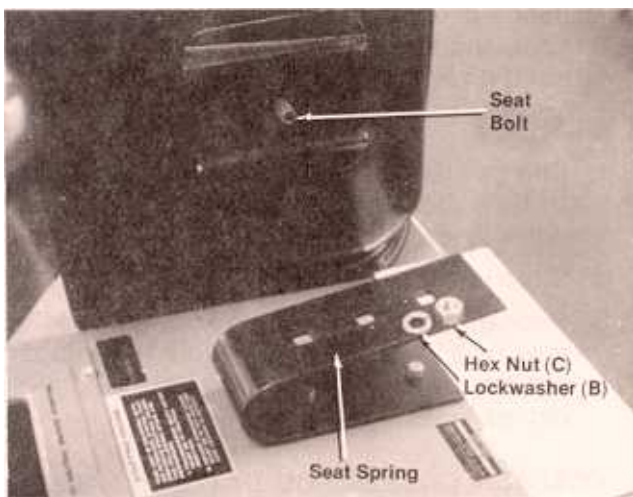

FIGURE 2. STEERING WHEEL ASSEMBLY
First, place the steering shaft cover over the steering shaft. Then position the steering wheel on top of the steering shaft. You will note there is a hole in the steering wheel hub, in the steering shaft cover and in the steering shaft. Align these three holes and secure the three parts by driving a spring pin (A) through the three aligned holes. (Alignment can be simplified by inserting a punch or small rod through the three holes from the side opposite the spring pin insertion side.) See figure 2.